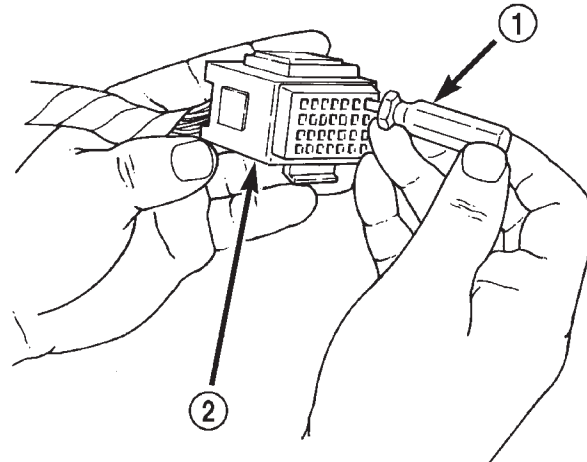

Fig. 14 Using Special Tool 6932
(4) Using special tool 6932, push the terminal to remove it from the connector (Fig. 14).